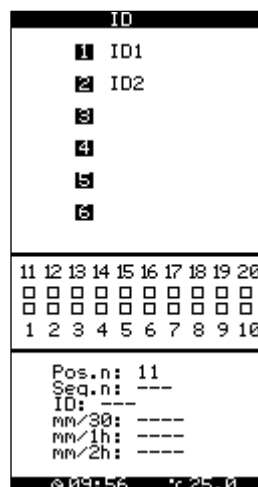

Figure 4
5.1 Main Menu Function (1) ID: Samples Identification
After selecting (1) ID, the instrument shows two options (ID1 and ID2) to record the data (see Figure 4).